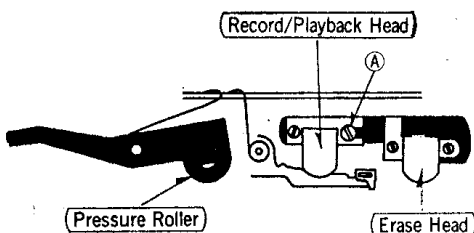

Figure 1
**Head azimuth** (Figure 1). Using test tape, connect VTVM across each channel output (phone LINE OUT jacks) and adjust screw A for equal and maximum output on